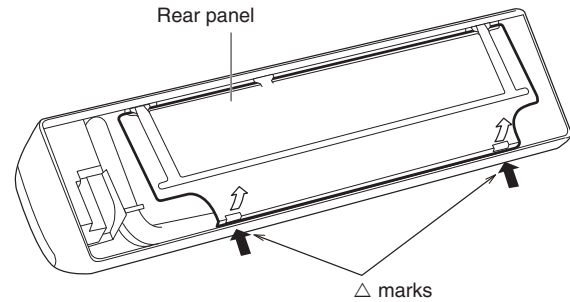

Fig. 3-2
- (2) Press the 2 Δ marks on the frame cover and disengage the stationary tabs from the frame. (Fig. 3-2)